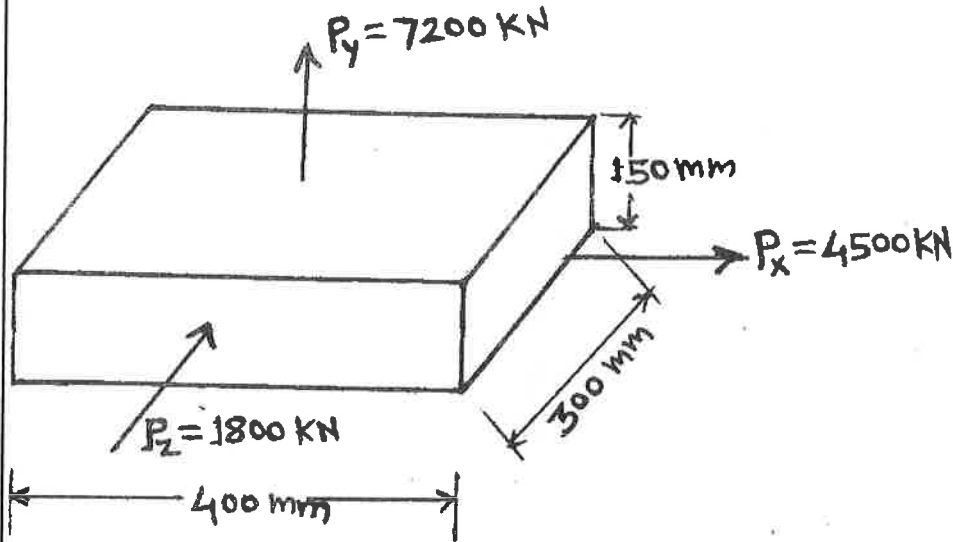

Fig No. 4
- a) A rectangular block loaded is shown in Figure No. 4. Find linear strains in X, Y and Z directions. Also find change in volume of the block. Take  $E = 200 \text{ GPa}$  and Poisson's ratio.  $\mu = 0.25$